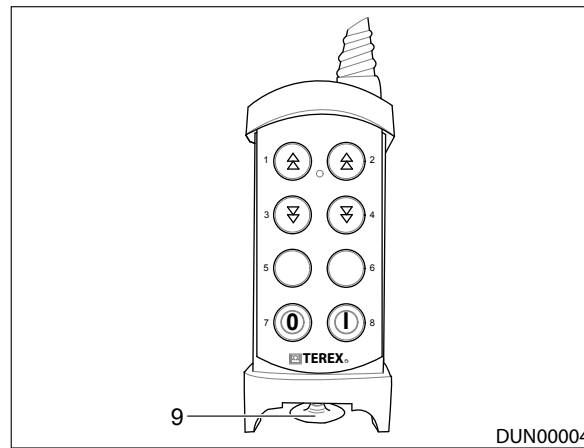

Figure 5.3 - Remote Tracking Control Unit
8. Operate the track buttons on the remote control unit to move the machine off the low loading trailer, Ref: Figure 5.3.